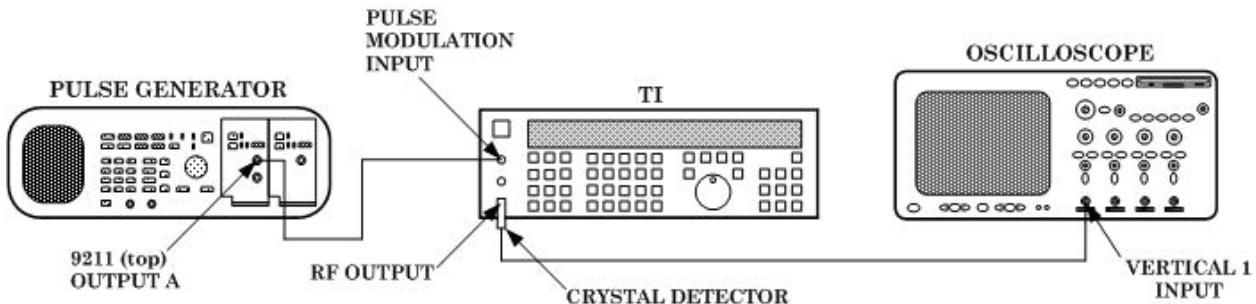

Figure 2. Pulse modulation risetime hookup.
- (7) Set TI **FUNCTION-RF ON** to off (red light extinguished).
(8) Connect equipment as shown in figure 2.